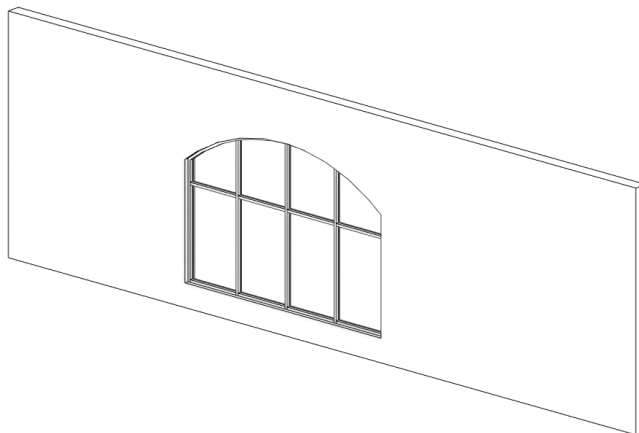

FIGURE 2.27 Curtain wall elevation view complete
7. Select the top sketch line and press the Delete key to remove it. Then add a new sketch line, using the Start-End-Radius Arc draw tool. Click Finish Edit Mode to complete the sketch and update the curtain wall. Revit Architecture may warn you that some of the mullions in the original system can't be created. This is fine, because some of the mullions are outside the sketch area. Click Delete Element(s) to continue (Figure 2.27).